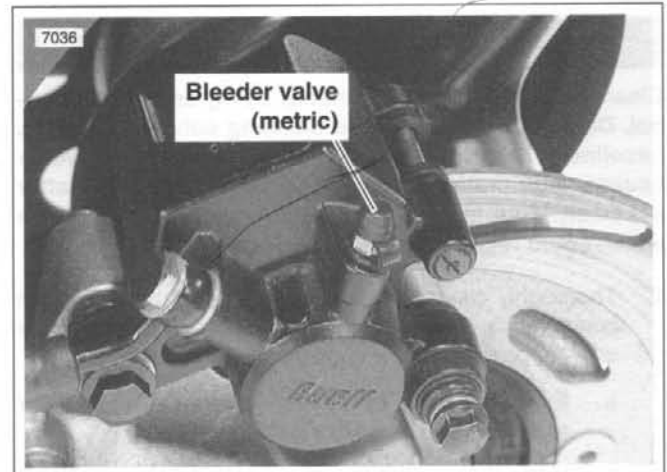

Figure 2-43. Rear Caliper Bleeder Valve (Metric)
1. See Figure 2-43. Drain brake fluid into a suitable container. Discard of used fluids according to local laws.